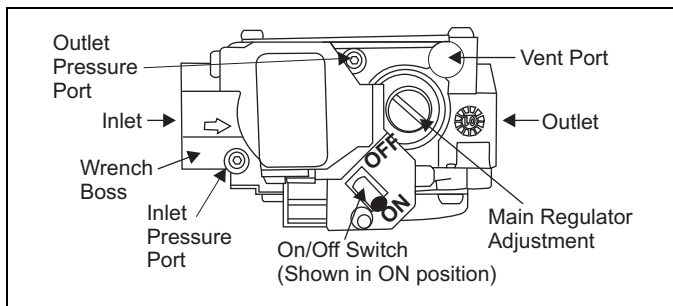

FIGURE 8: Single Stage Gas Valve
5. Move gas control switch to the OFF position. Do not force. See Figures 8, 7 or 8.
6. Wait five (5) minutes to clear out any gas. If you then smell gas, **STOP!** Follow "B" in the safety information above. If you don't smell gas, go to next step.
7. Move gas control switch to the ON position. Do not force. See Figures 8, 7 or 8.
11. After three (3) trials for ignition, if the appliance will not operate follow the instructions, "TO TURN OFF THE APPLIANCE" and call your service technician or gas supplier.
4. Move gas control switch to the "OFF" position. See Figures 8, 7 or 8.
3. Check that the ON/OFF switch on the gas valve is turned to the ON position. Refer to Figures 8, 7 or 8.